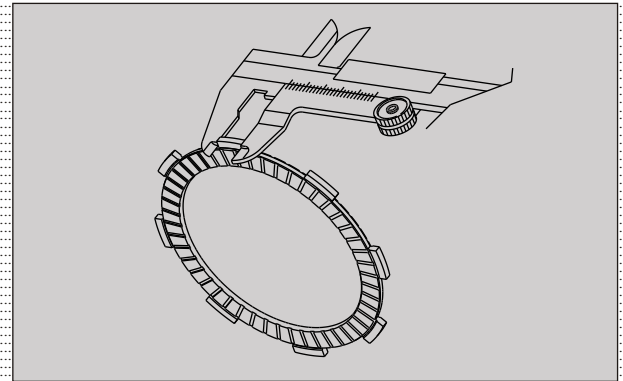

Fig. 3.16
- Inspect claw width of plate clutch drive using vernier caliper. (Fig. 3.16). If the claw width is less than the service limit change the plate clutch drive as a set.